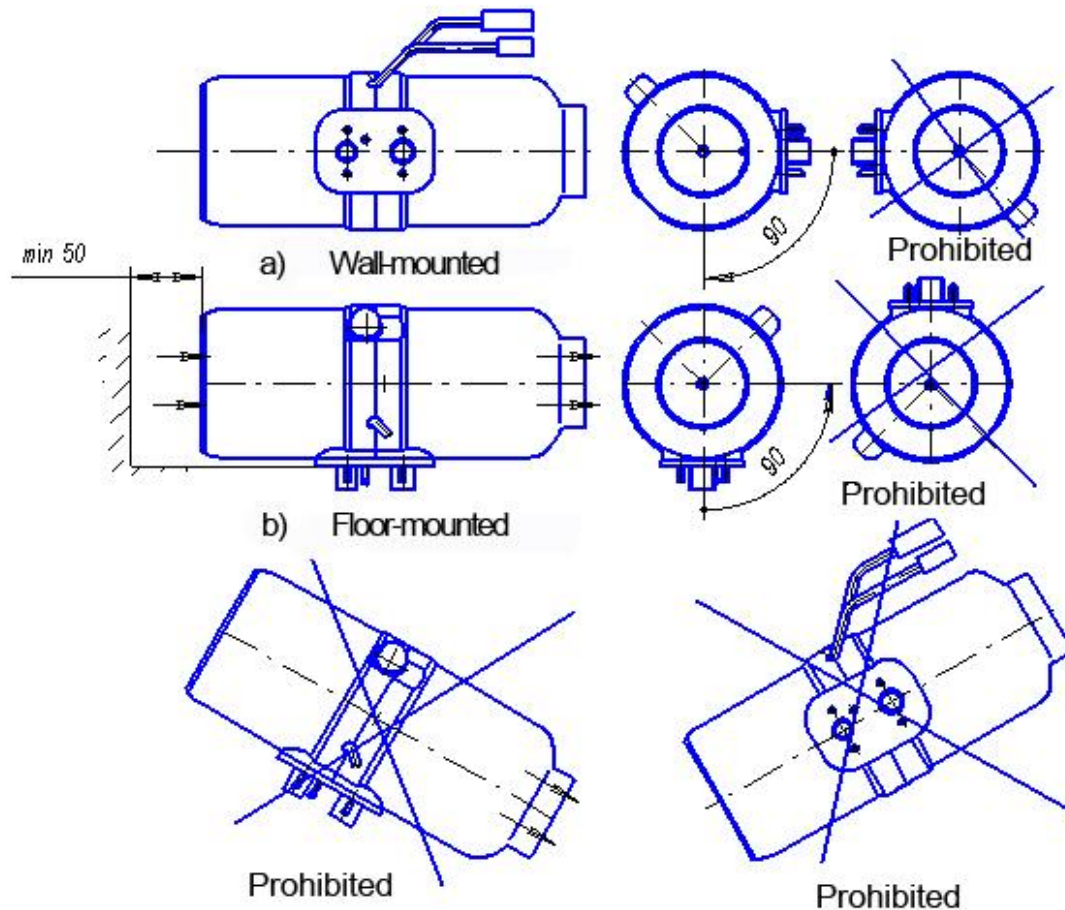
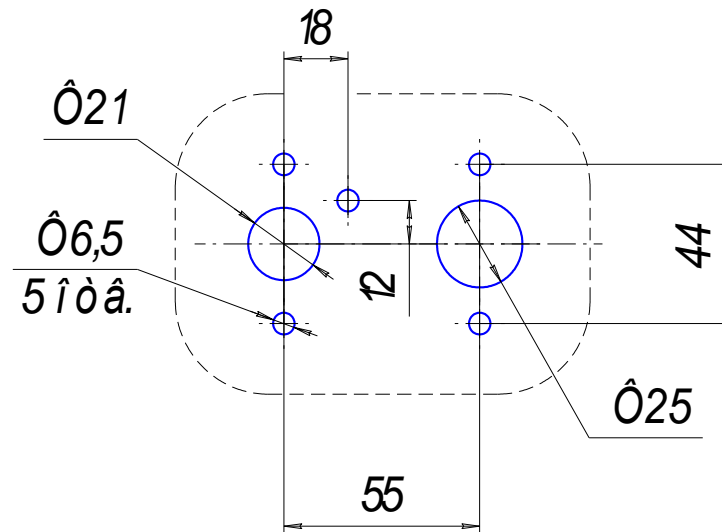

Figure 1 – Mounting Options
Figure 2 – Mounting Holes Used for Heater Installation
Installed the heater indoors while bearing in mind the permissible operating positions shown in Figure 1. The figure shows the two maximum assembly positions of the heater. Positioned the heater's inlet vent in such a way to prevent absorption of vehicle/heater exhaust gas in normal operating conditions. The gap between the walls/partitions and the edge of the inlet vent shall be at least 50 mm (see Figure 1). When assembling or operating the heater, ensure that no foreign objects enter the inlet/outlet vents. Prior to assembly, ensure availability of spare heating plug and bear in mind dismantlement requirements, as this will permit easier maintenance in future. See Figure 2 for how to position mounting holes to install the heater into the motor vehicle casing.
**ATTENTION !! To ensure reliable performance, follow the above recommendations carefully. Install the heater horizontally with the heating plug in the up position as shown in Figure 1.**
Heater wire harnesses shall be installed in compliance with the heater wiring system as shown in Figure 2. When installing, do not allow the wire harnesses to become overheated, deformed or dislodged during vehicle use. Attach the harnesses to the vehicle fittings using plastic clamps. It is possible to connect the harness of the 10TS or 14TS liquid phase heater to the heater harness's XP5 contact so as to provide the heater with electricity.